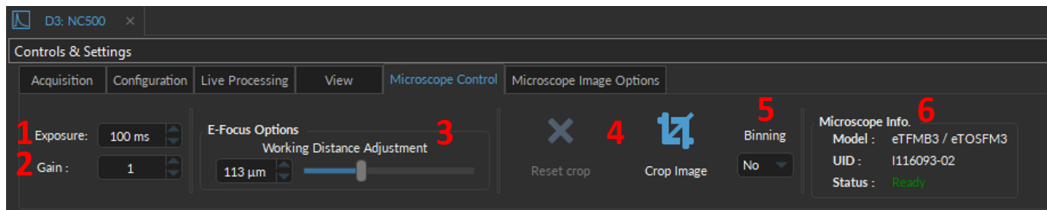

Figure 16.91: *Microscope Control Tab*
The **Microscope Control** (Fig. 16.91) specifies microscope settings that change the quantity/quality of images the microscope sensor collects. These settings directly affect data recording in *.doric* file, and include:
1. The **Exposure (ms)** textbox (Fig. 16.91, 1) specifies the length of time that the microscope sensor collects light from the sample. This value is inversely related to the **FPS** of the device, such that a 100 ms exposure corresponds to 10 FPS (accordingly, a 200 ms exposure corresponds to 5 FPS, and so on).
2. The **Gain** text-box (Fig. 16.91, 2) corresponds to the relative amplification measure applied to the sensor. Note that increasing the gain will simultaneously increase both the signal and noise. Four options of gain (1-4) are available.
3. The **E-Focus Options** (Fig. 16.91, 3) allows users to adjust the **Working Distance** of the microscope focus using a slide bar from 0 to 350 μm for Twist-on *efocus fluorescence microscope*.
4. The **Crop Image** button (Fig. 16.91, 4) allows to select a square portion of the image by dragging the mouse cursor on the selected image region. Releasing the cursor will automatically crop the displayed image. To reset the image to its original pixel size, Press the **Reset crop** button. **Note:** In order to crop an image, a frame must be loaded into the **Microscope View**, which can be done using either **Live** or **Record** buttons (Fig. 16.7, 1 & 2).
5. The **Binning** drop-down (Fig. 16.91, 5) averages the pixels values based on the binning value selected: either none, 2x2 or 4x4 pixel squares will be average together. This reduces the number of pixels for smaller save file sizes. Note that **Size** of the frame will be automatically adjusted based on the binning:
6. The **Microscope Info.** (Fig. 16.91, 6) displays the following device information: